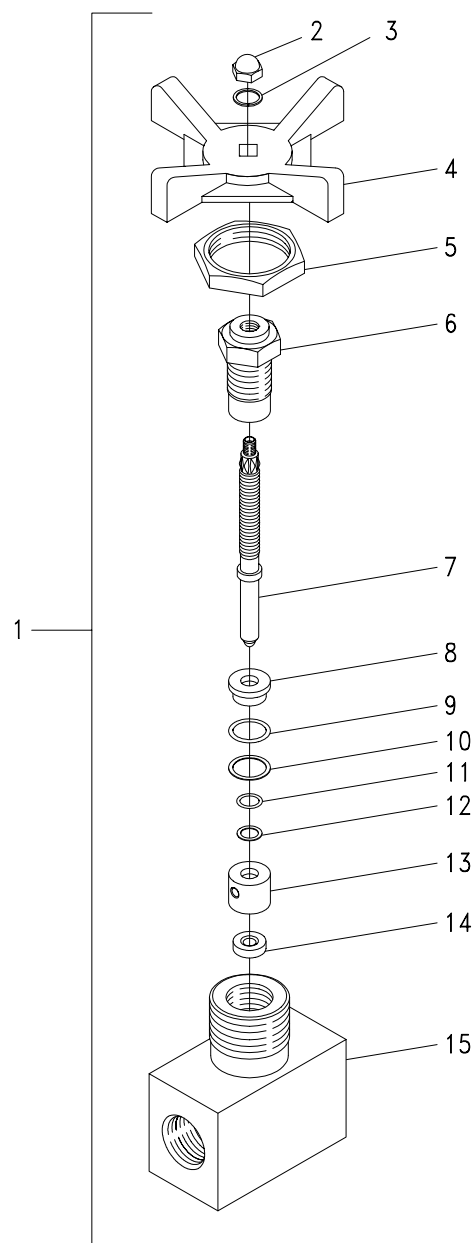
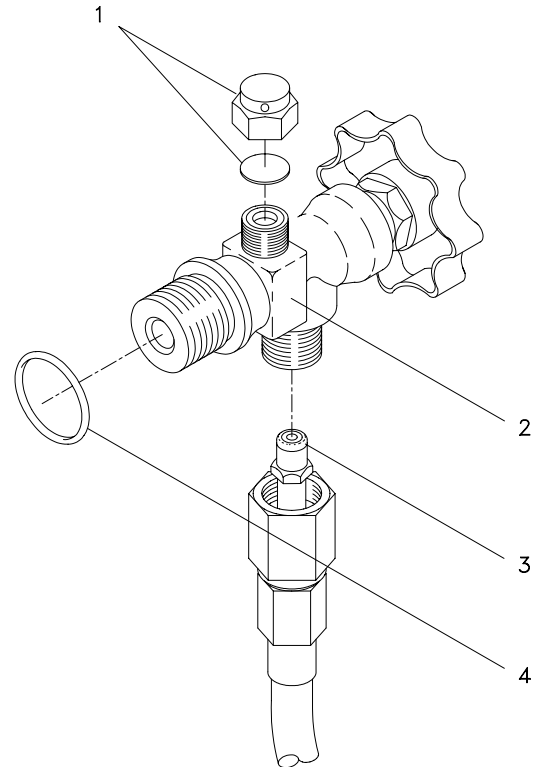

Figure 6-14. CPV HP Isolation Valves (AHP-V501 thru AHP-V504 and AHP-V601)
Figure 6-15. Flask Shutoff Valves (AHP-V505, AHP-V506, AHP-V507) and Softseat
- (4) Remove bagging from hose or cross fitting. Install new softseat (Figure 6-15, 3) on hose or cross nipple.
- (1) Remove flex hose assemblies from adapter fittings on AHP-V501, -V502, and -V504.
- (2) Remove softseats (Figure 6-15, 3) from the three exposed hose nipples and discard. Bag open ends of hoses H-502 and H-505.
- (3) Remove panel mounting screws, washers, and nuts (three sets) from flask rack assembly panel, and remove panel from rack.
- (1) Inspect new valve to ensure that chrome button has been discarded from handle and that valve has been cleaned in accordance with MIL-STD-1330 or another approved NAVSEA cleaning procedure for life support systems.
- (2) Remove hex nut (1), handle (2), and panel nut (3) from new valve.
- (3) Using approved lubricant, lubricate two new O-rings (M83248/2-906) and install one on each side of union connector. Install union connector on manifold end of new valve, and install new valve on manifold assembly.
- (4) Using approved lubricant, lubricate one new O-ring (M83248/2-906). If replacing AHP-V501, AHP-V502, or AHP-V504: Install O-ring on valve end of adapter fitting, and install adapter fitting on valve. If replacing AHP-V503: Install O-ring on valve end of positionable elbow and install elbow on valve.
- (5) Position manifold assembly behind panel with one valve spacer positioned between each valve and panel. Insert valve bodies (4) through panel, and secure with panel nuts (3).
- (6) Place handles (2) on valve stems and secure with hex nuts (1).
- (7) Reinstall panel on flask rack assembly and secure with the three sets of panel mounting screws, washers, and nuts.
- (8) AHP-V503 only: Using approved lubricant, lubricate new O-ring (M83248/2-111) and install in groove on positionable elbow. Connect tubing to elbow and tighten union nut.
- (9) For AHP-V501, AHP-V502, and AHP-V504: Install a new softseat (Figure 6-15, 3) on each of the three hose nipples, and connect flexible hose assemblies to valve adapter fittings. (See Figure 7-14 for softseat ordering information.)
- (10) Pressurize flask rack assembly. Using NID solution prepared in accordance with paragraph 4.7.3.2, check valves and valve connections for leaks and correct as necessary.
- (11) Complete reentry control report and log.
Remove and repair or replace damaged/defective CPV HP isolation valves in accordance with the following procedure. Although all four valves must be removed from the panel for this procedure, only the damaged/defective valve needs to be replaced. Unless otherwise noted, refer to Figure 6-14 for parts location and to Figure 7-28 for an index of parts.
- (1) Remove flex hose assemblies from valve adapter fittings on AHP-V501, AHP-V502, and AHP-V504.
- (3) Remove panel mounting screws, washers, and nuts (three sets) from flask rack assembly panel; remove panel from rack.
- (4) Remove acorn nuts (Figure 6-14, 2), lock washers (3), and handles (4) from all four valves.
- (5) AHP-V503 only: Loosen union nut and disconnect tubing from positionable elbow. Remove, cut, and discard O-ring.
- (6) Remove panel nuts (5) from all four valves, and remove manifold assembly from panel. Retain valve spacers for later use.
- (7) Remove valve and union connector from manifold assembly. Remove, cut, and discard O-ring.
- (4) Position manifold assembly behind panel with one valve spacer positioned between each valve and panel. Insert valve bodies (15) through panel, and secure with panel nuts (5).
- (5) Install handles (4), lock washers (3), and acorn nuts (2) on all four valves.
- (6) Reinstall panel on flask rack assembly and secure with the three sets of panel mounting screws, washers, and nuts.
- (7) AHP-V503 only: Using approved lubricant, lubricate new O-ring (M83248/2-111) and install in groove on positionable elbow. Connect tubing to elbow and tighten union nut.
- (8) For AHP-V501, AHP-V502, and AHP-V504: Install a new softseat (Figure 6-15, 3) on each of the three hose nipples, and connect flexible hose assemblies to valve adapter fittings. (See Figure 7-14 for softseat ordering information.)
- (9) Pressurize flask rack assembly. Using NID solution prepared in accordance with paragraph 4.7.3.2, check valves and valve connections for leaks and correct as necessary.
- (10) Complete reentry control report and log.
6.8.3.3 Flask Shutoff Valves (AHP-V505, AHP-V506, AHP-V507). The following procedure should be used for repairing or replacing the flask shutoff valves. Although the flask shutoff valves are identical for each flask, they are given JID numbers that indicate their position within the flask rack assembly (in left-to-right order). The hose connections are similar for AHP-V505 and AHP-V507, whereas AHP-V506 differs in that it connects to a cross fitting rather than a hose assembly. Repair includes replacing the safety assembly, seat plug, and packing in the valve, and related maintenance includes replacing the softseat that is located on the nipple end of the hose or cross. Refer to Figures 7-14 and 7-25 for replacement parts for the softseat and flask shutoff valves, respectively. The callouts in the following procedure refer to Figure 6-15.